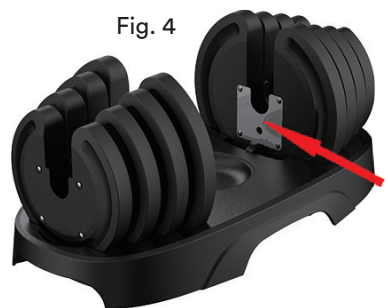

Fig. 4
- Now reassemble the individual parts correctly - the metal clip must point towards the centre of the base (see Fig. 4).